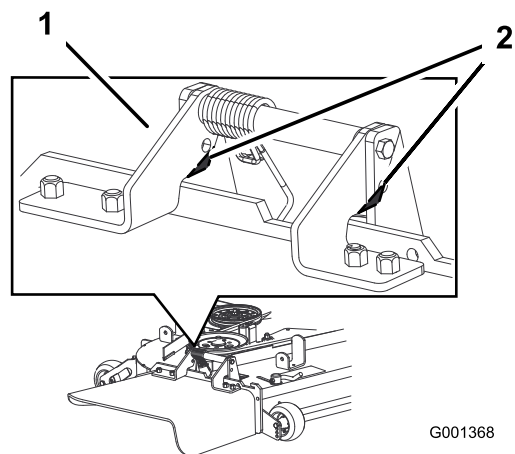

Figure 26
5. Position the boot's front hook into the front slot on the mounting bracket (Figure 26).
Note: If the grass deflector interferes with the boot, grind off part of the grass deflector frame. See Figure 26 for the correct part to grind off.